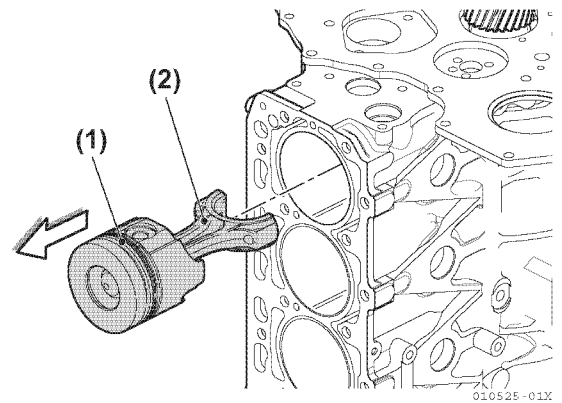

Figure 5-50
- 44. Remove the pistons and connecting rods (Figure 5-50).